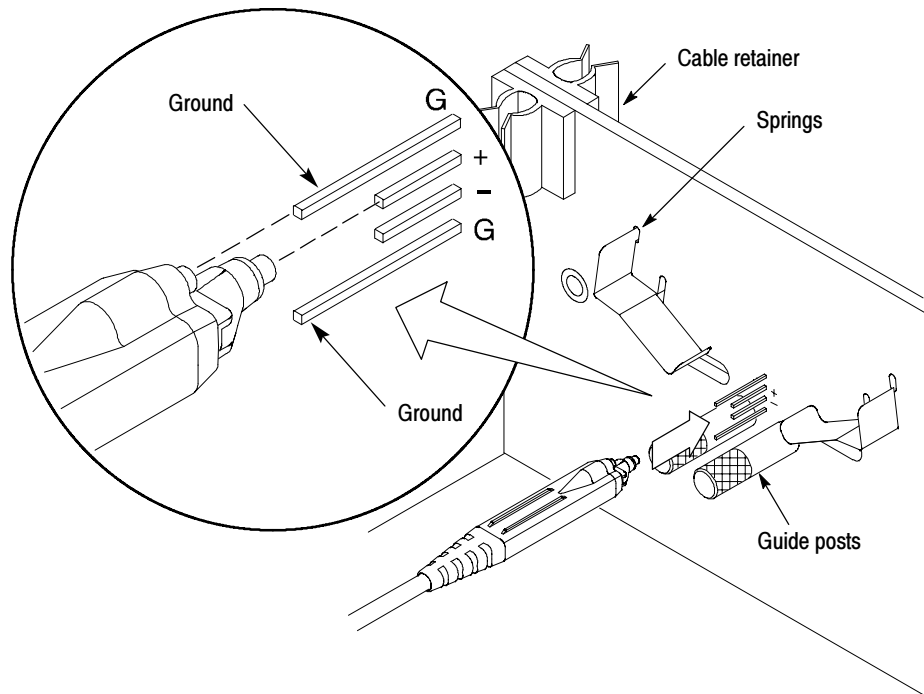

Figure 4: P6249 or P7240 without tips
2. Slide the probe over the top of the SKEW ADJUST ground and positive pins. Be sure the probe is perpendicular to the Deskew Fixture. See Figures 4 and 5 on page 6. Repeat this step to add a probe to the other side of the fixture.